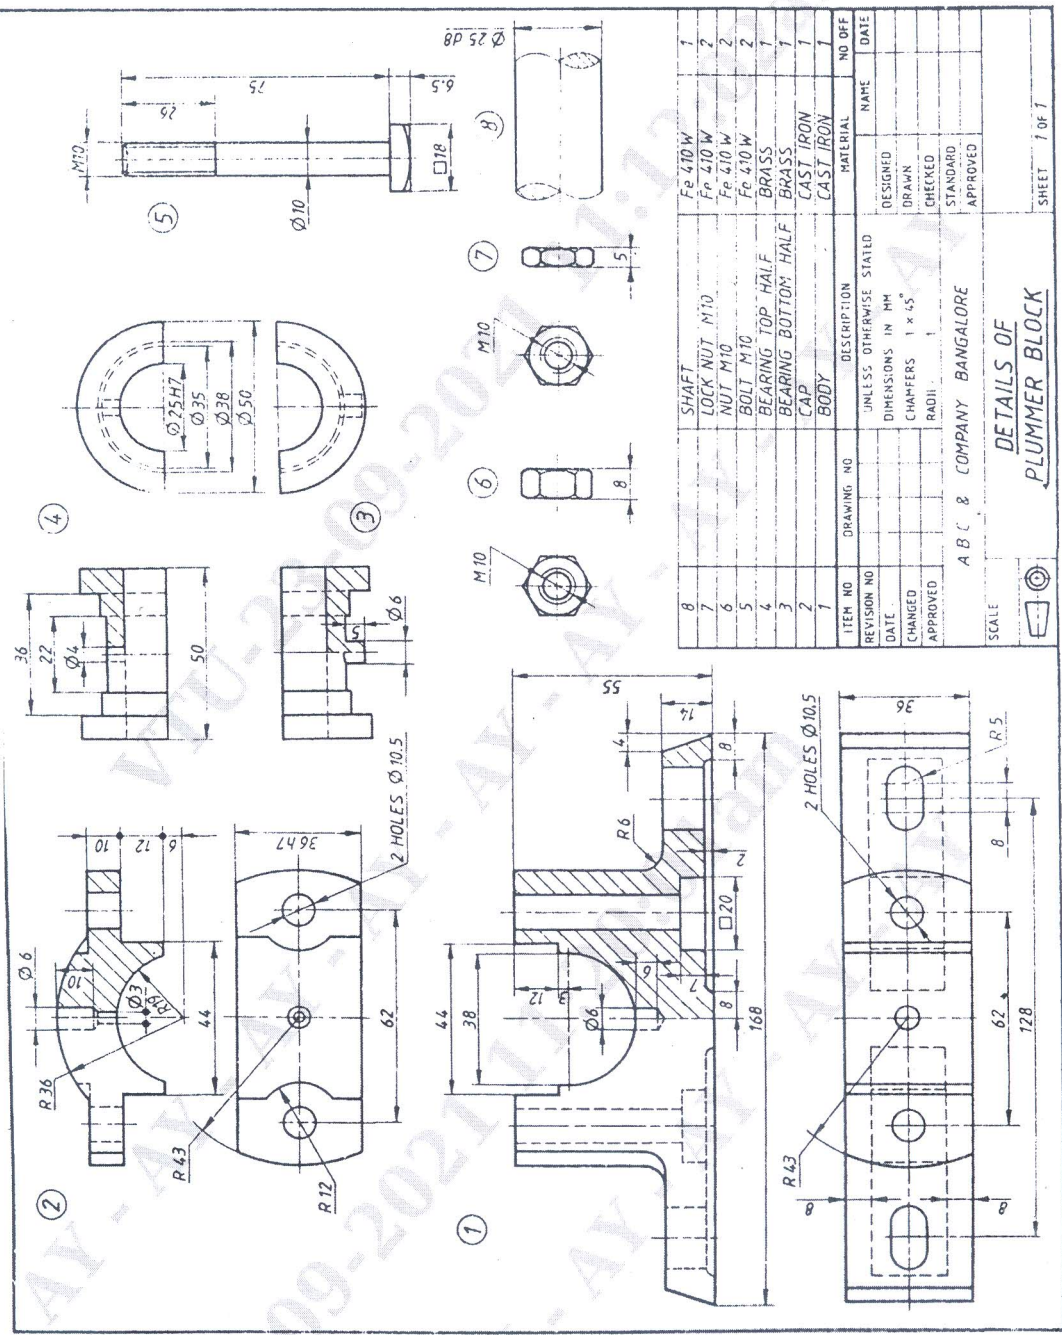

Figure 1: Details of Plummer block.
5. Figure 1 shows the details of a Plummer block. Assemble the parts of the Plummer block and show the following views.